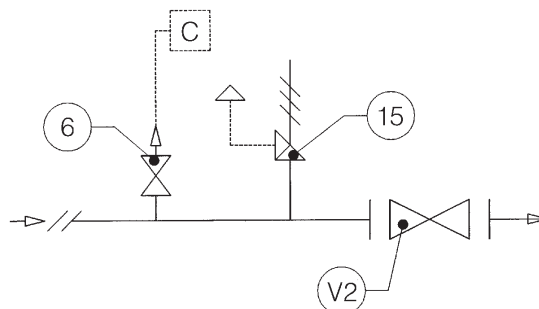

Fig. 5
3.1.1 DIRECT INSTALLATION ON THE LINE (FIG. 5)